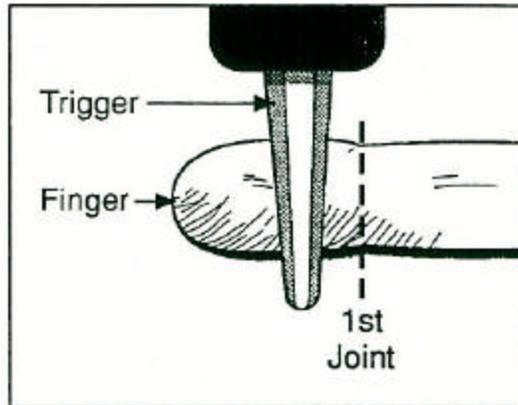

Figure 8
- (1) Finger Placement. To begin proper trigger control, the shooter must first properly place the index finger on the trigger. The index finger is placed in the middle of the trigger at the most rearward curved portion, to apply pressure to the trigger. The trigger should cross the finger approximately halfway between the tip of the finger and the first joint, over the swirl of the fingerprint. (See figure 8.)